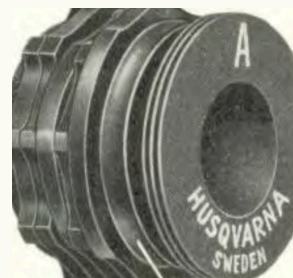

Fig. 38.
5. Holding the new cam set in the same way, push it into the shaft with its code letter uppermost so that the locking arm (A, Fig. 40) will fall into the groove (Fig. 38).